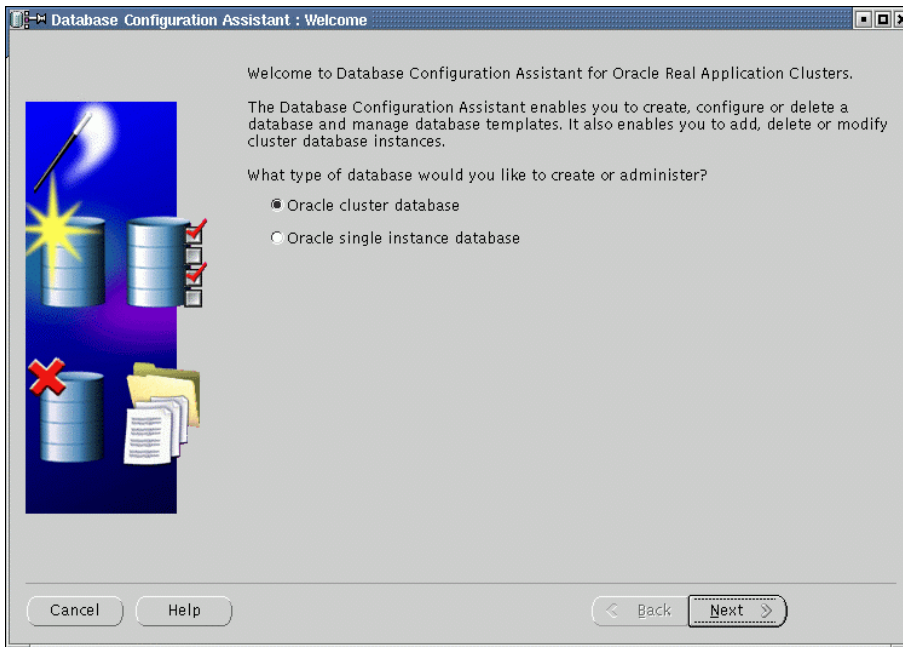

Figure 76. dbca welcome
- As `oracle` user, type the `dbca` command at the shell prompt. The dbca welcome screen is displayed, as shown in Figure 76. Select **Oracle Cluster Database** and click **Next** to continue.